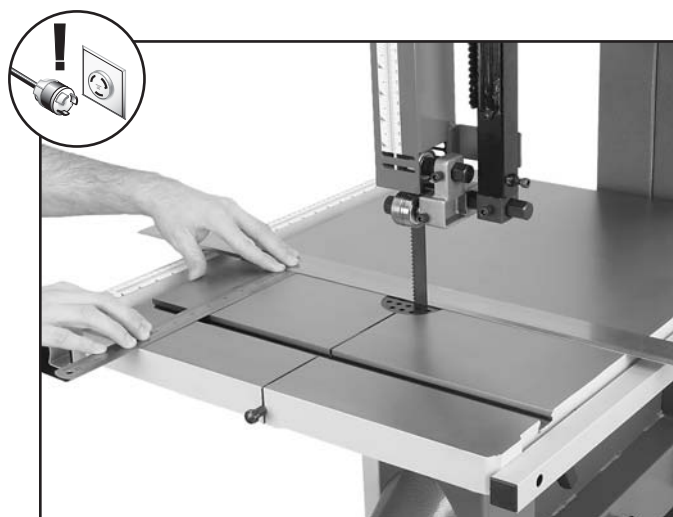

Figure 25. Example of measuring the table miter slot to be parallel with the blade.
3. Place the straightedge flat on the table and across the blade so that it lightly touches both the front and back of the blade without touching a tooth, as shown in **Figure 25**.